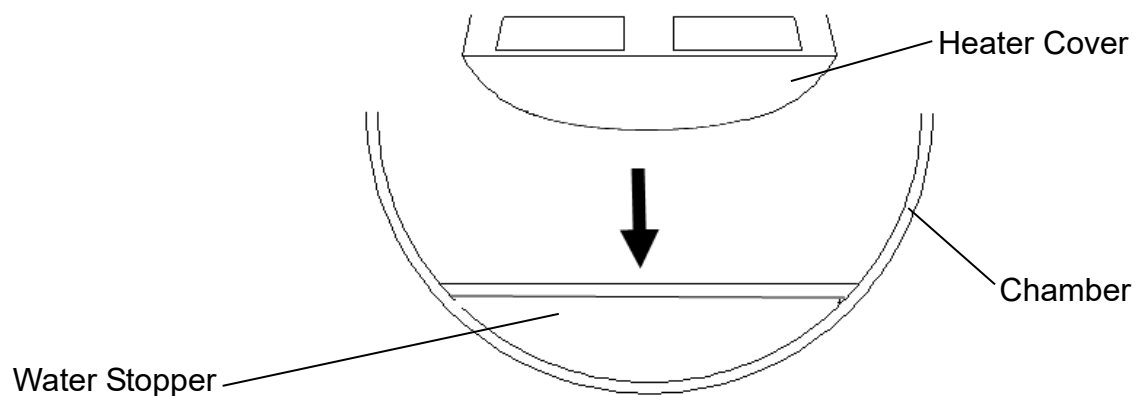

Figure 28
- B. Install the heater cover to the chamber as Figure 28 (standard accessory) Ensure the rounded edge is towards the back and the vertical front edge of the cover locates securely into the corresponding slots in the lower part of the chamber opening.